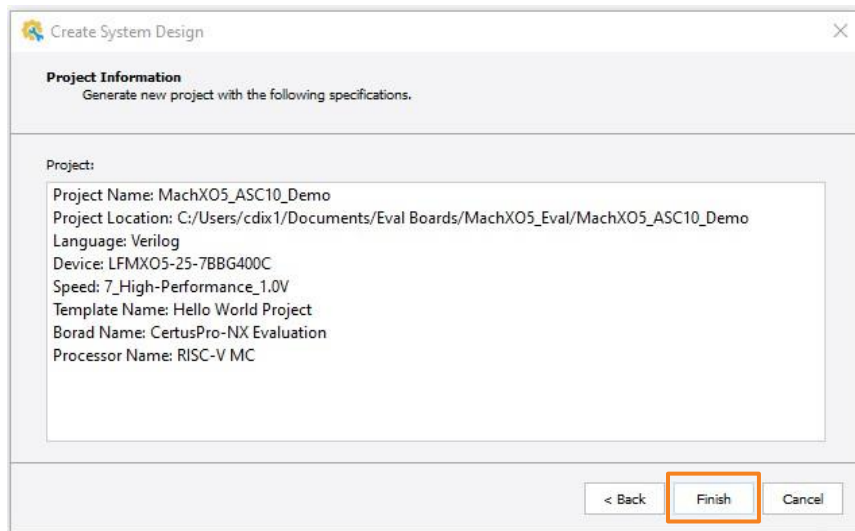

Figure 3.3. Propel Builder – Summary
- The **Project Information** window will appear, as shown in Figure 3.3. To summarize the project click **Finish** to generate the project.